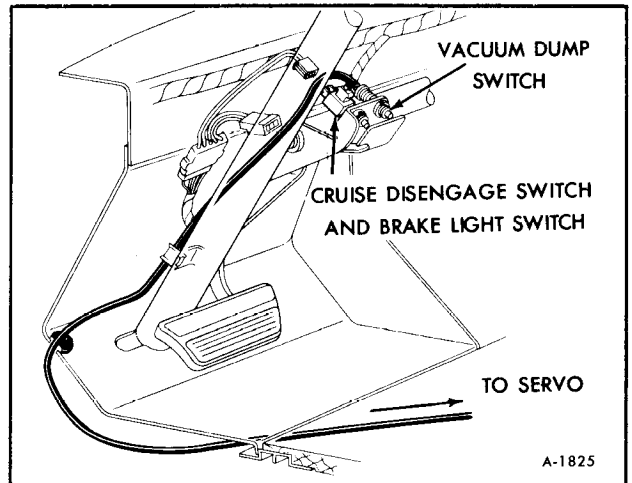

Figure 47—Brake Release Switches
**Adjustment**—The brake switch plunger must clear the pedal arm when the arm is moved 1/4 inch measured at the switch. (figure 47)
**Adjustment**—The brake switch plunger must clear the pedal arm when the arm is moved 5/16 inch measured at the switch. (figure 47)